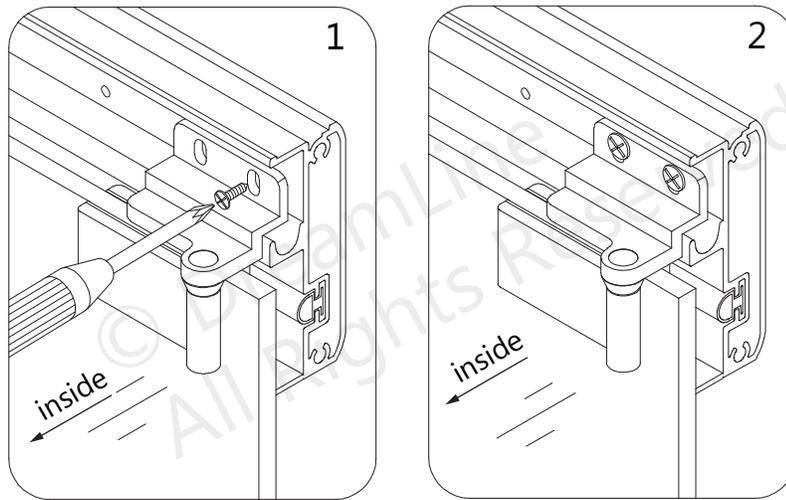

**Fig 6b**
**6. Slide Hinge Assembly (#13) side of the door glass assembly into the channel of the top and bottom Guide Rails (#03) from the right side, followed by the Roller Assemblies (#12). (Fig 6a and Fig 6b)**